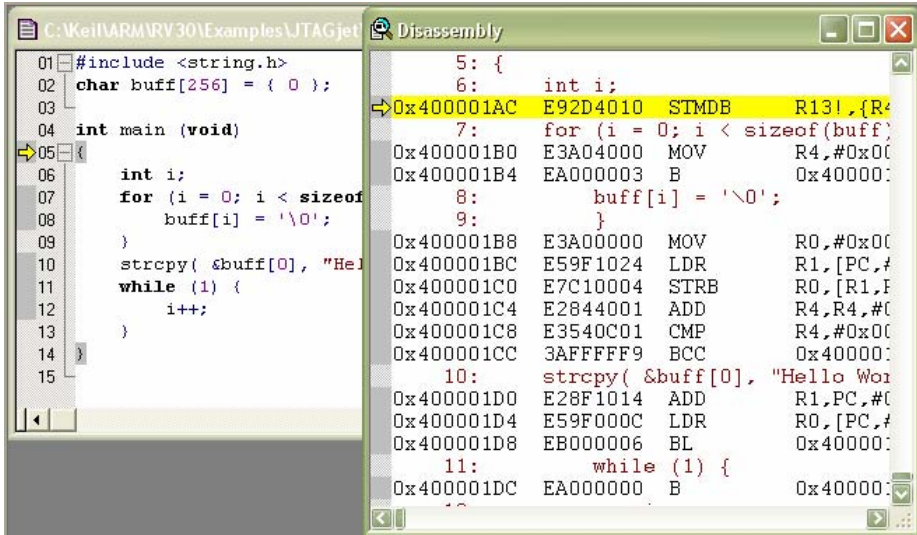

FIGURE 28 The Hello RAM application executed until the main() function.
- From the View menu, open the Disassembly window and position the source code window with the main.c file in it next to the Disassembly window. Both windows show that code was executed until main() at address 0x400001AC (Figure 28).